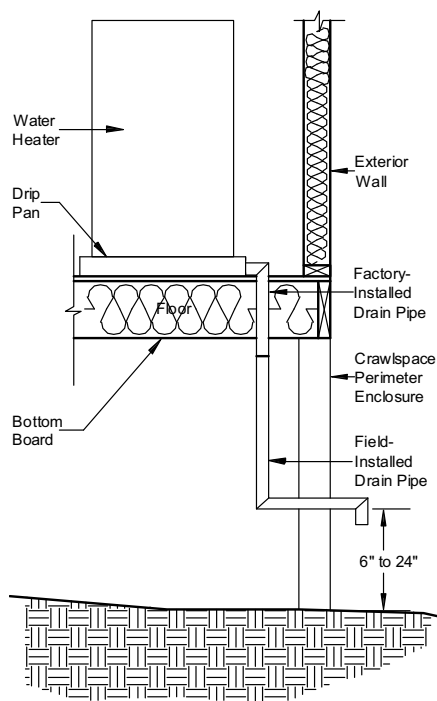

Figure 85. Water system connection
To connect the home's water system to the water source, identify the water inlet located under the home (usually below the water heater compartment or utility room) and follow the procedure described below (refer to **Figure 85**):
2. **Pressurize system.** Connect a hydrostatic pump, valve, and gauge to the location shown in **Figure 85**. Pressurize the system with water at 100 psi, and then isolate it from the pressure source. Bleed all air from the highest and farthest points in the system.